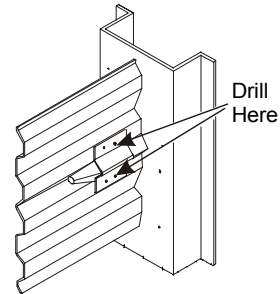

Figure 14: 16-Gauge Blades
- 16-gauge Blades--Drill out the first punch marks from the end channel, as shown in Figure 14.